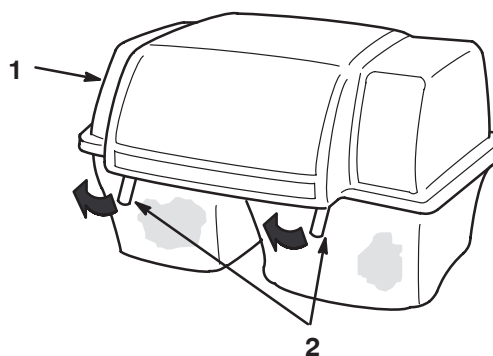

Figure 14
3. Raise the bagger top and remove the grass bags from the bag frame (Fig. 14).